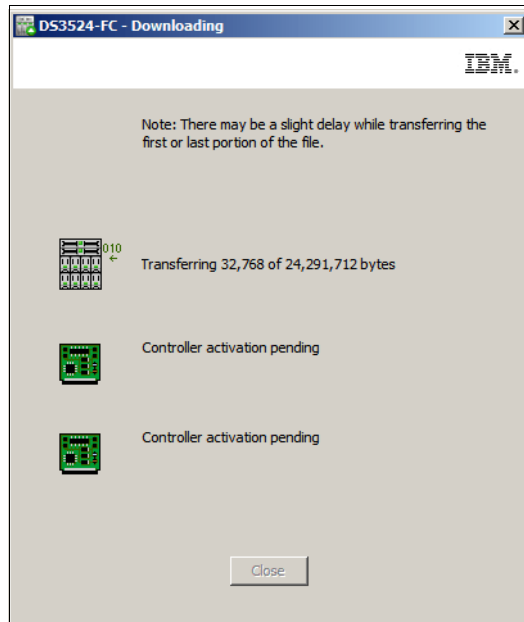

Figure 14-72 Downloading the firmware
7. The microcode will now be transferred to the storage subsystem and applied to both installed controllers. This can take some time. You can monitor the status in the Downloading window that appears (Figure 14-72 on page 377).